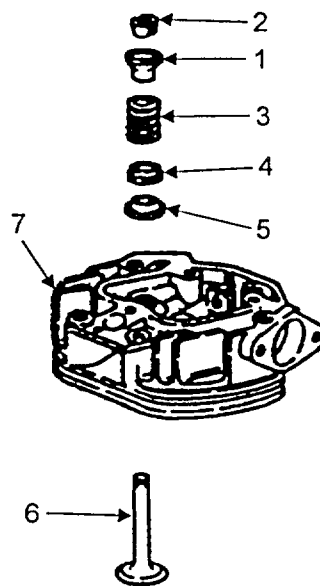
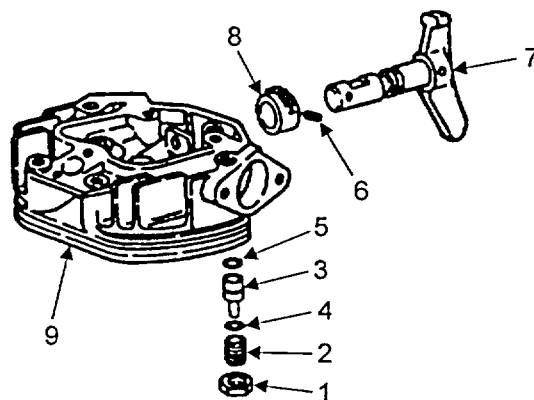

FIGURE 5-19. DISASSEMBLE VALVES
FIGURE 5-20. DISASSEMBLE DECOMPRESSION MECHANISM
- a. Press down cup (Figure 5-19, Item 1) and remove collets (2).
- b. Remove valve spring (3), washer (4) and cap (5).
- c. Remove valve (6) from cylinder head (7).
- d. Remove nut (Figure 5-20, Item 1) from threaded pin (2) Unscrew and remove pin (2).
- e. Using needlenose pliers, remove pin (3) with 10 spring plates (4) and preformed packing (5) attached.
- f. Remove preformed packing (5) Discard packing.
- g. Knock out pin (6) and remove decompression shaft (7) and pinion (8) from cylinder head (9).